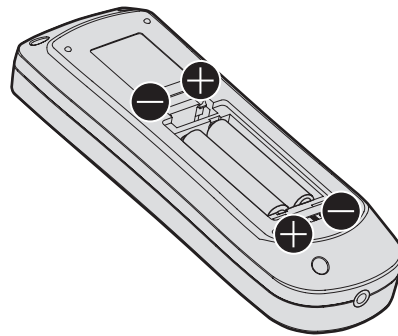

Fig. 2
- 2) Insert the batteries and close the cover (insert the **−** side first). (Fig. 2)